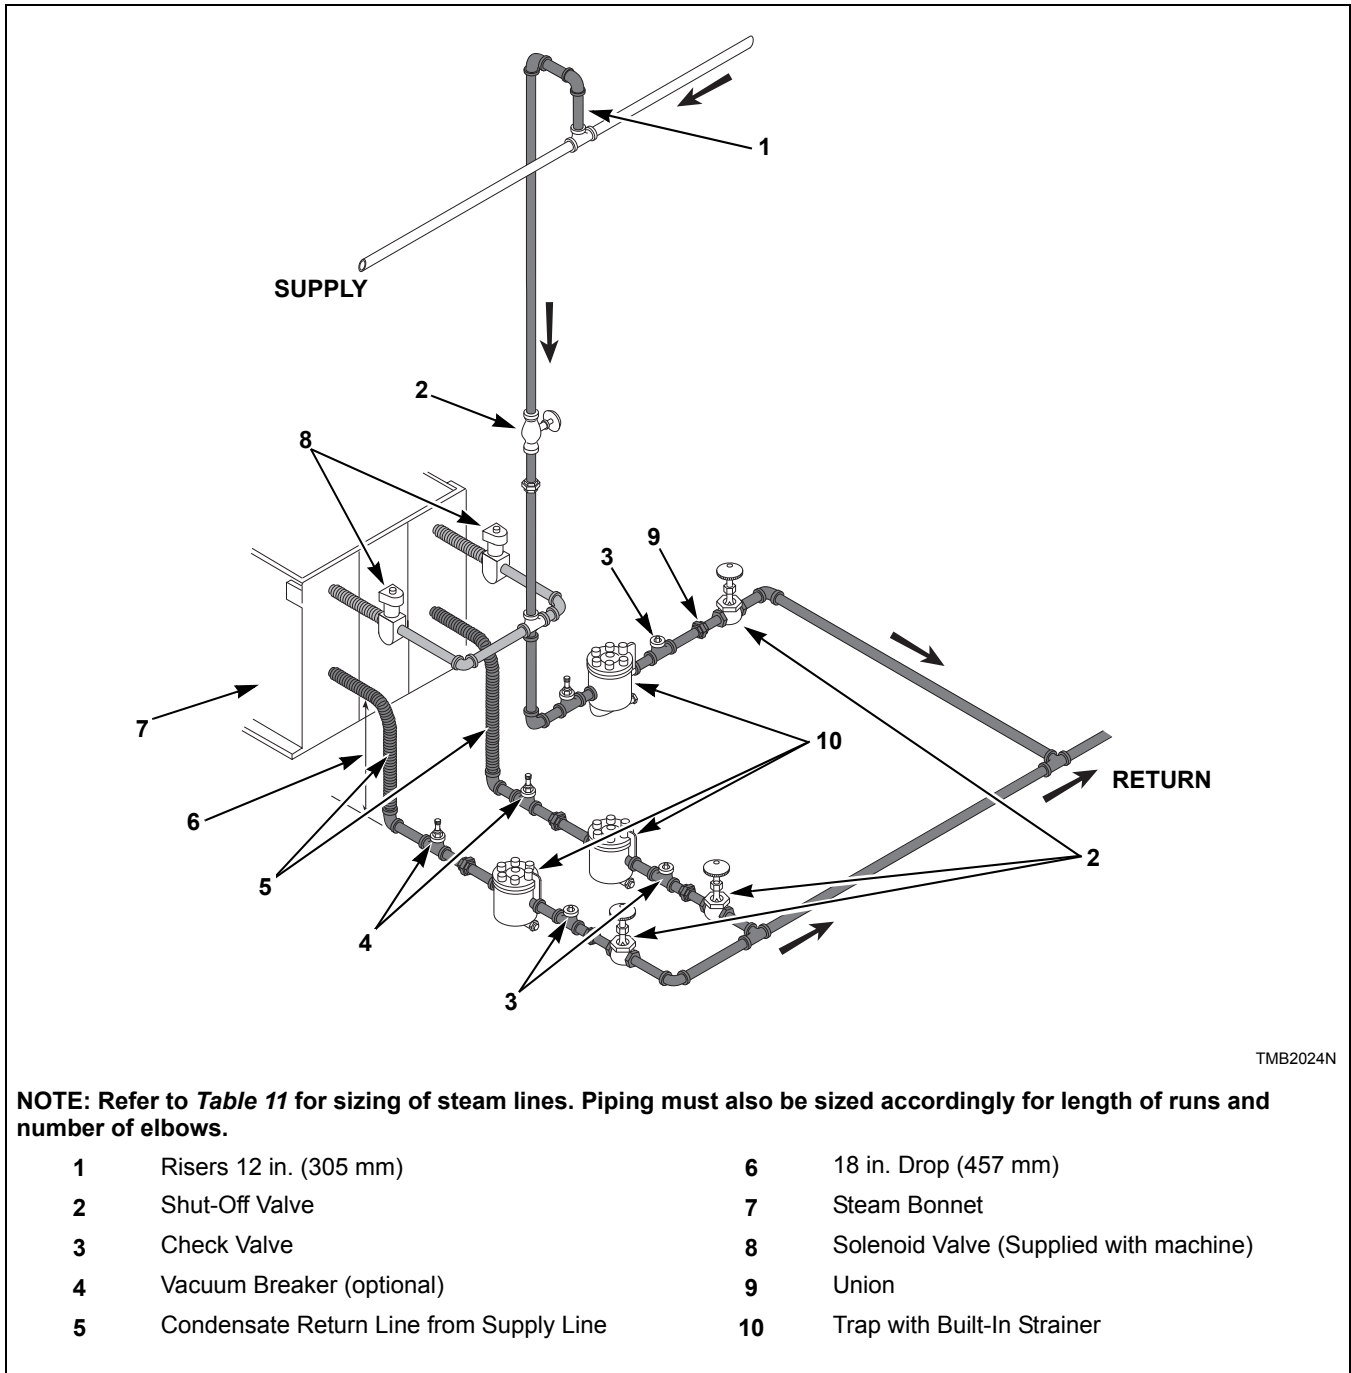

Figure 12
- Refer to *Figure 11* and *Figure 12* for proper steam pipe configurations.
The steam trap must be installed and the coil outlet connections must be connected to the condensate return lines. The following steps outline the procedure for installing the steam trap and connecting the condensate return lines. Refer to *Figure 11* and *Figure 12* for typical installations.